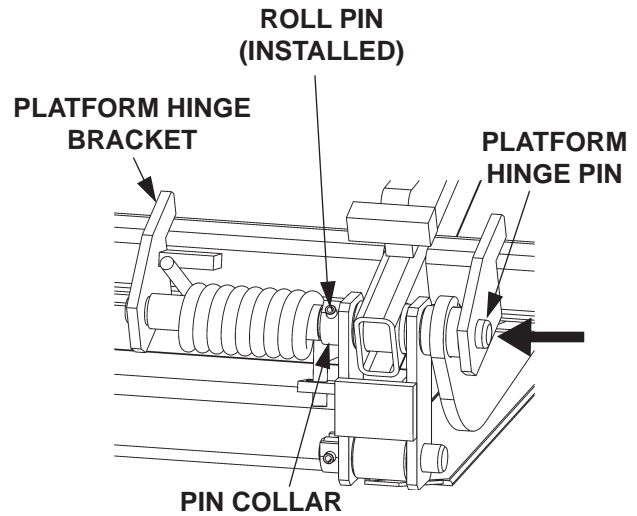

FIG. 19-1
6. Drive platform hinge pin inboard to correct position through the platform hinge bracket (**FIG. 19-1**). Line up the hole in the platform hinge pin with the hole in the pin collar. Install the roll pin through the pin collar until roll pin protrudes equally from both sides of the collar (**FIG. 19-1**).